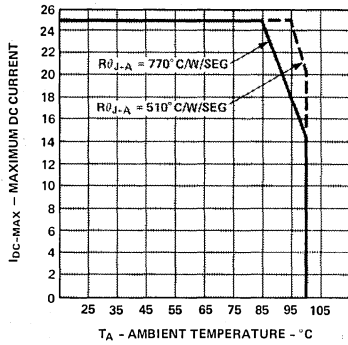

Figure 2. Maximum Allowable Average Forward Current Per Segment vs. Ambient Temperature. HDSP-5301 Series.
- Derate Maximum DC current: See Figure 2 for -5301 Series. See Figure 9 for -5501 Series. See Figure 10 for -5601 Series. See Figure 11 for -5701 Series.